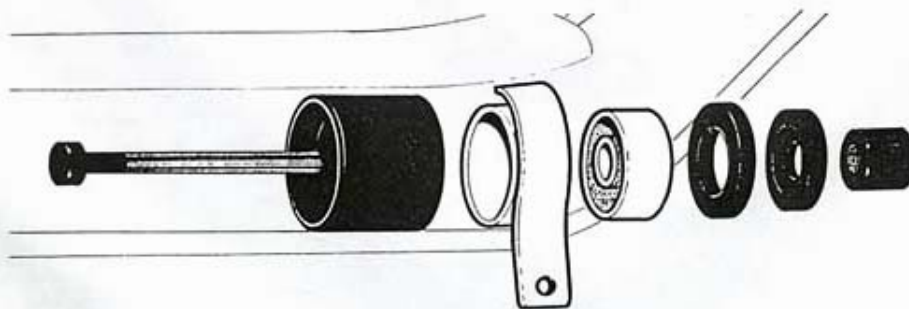

Fig. 2 - Location of parts for bushing installation
- Loosen the cable end using a 6mm open wrench and slide the inner wire out through the brake lever (fig. 2).